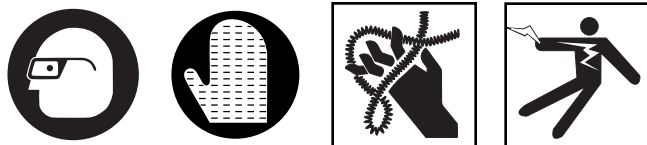

Figure 5 – Cable Adapter Attachment
3. Lift plunger pin on cable adapter and depress clutch handle on machine to allow cable adapter to slip into drilled hole (*Figure 5*). Be sure plunger has locked into machine.